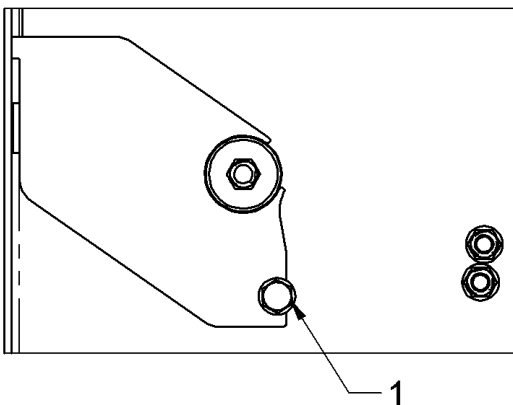

Figure 4. Cover Plate closed position, bolt removal.
Remove the M12 bolt (1) from the Cover Plate located on the LH Mid Body Panel, as indicated in Figure 4.